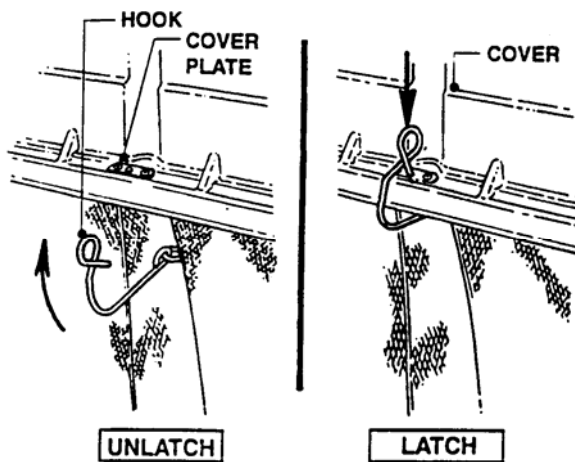

FIGURE 9
STEP 9: Bag Installation. Lower cover assembly onto frame. Lift up hook and insert it into hole in cover plate. See Figure 9